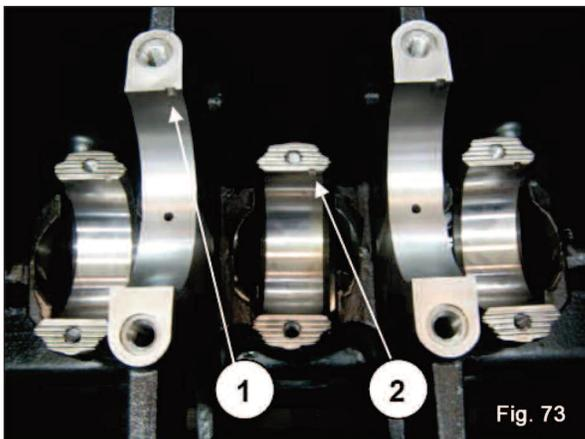

Fig. 73
To avoid possible swapping of bearing shells adhere strictly to the above figure (fig. 72); specifically, the conrod bearing shells have no notch (1) while the main bearing shells have a notch and an oilway (2). Before fitting the crankshaft recheck the correct positions of the bearing shells. For correct assembly of the main bearing shells make sure the reference keys are positioned in their locations (1 and 2, fig 73).